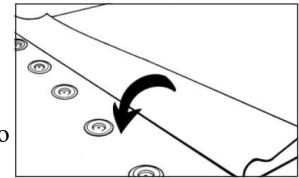

Figure 4
- Place 5 plates on a sample of your insulation, 10" apart. (Do not use screws.) Lay a sample of your membrane over the plates (See Figure 4)